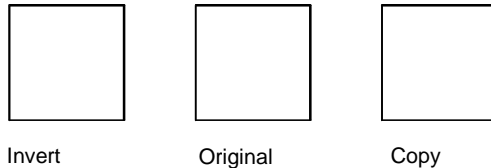

Figure 10.1: Inverting a copy
6. Copy entities at the same distance and angle but in the opposite direction by clicking on Invert and then selecting the entities to be copied (see Figure 10.1).